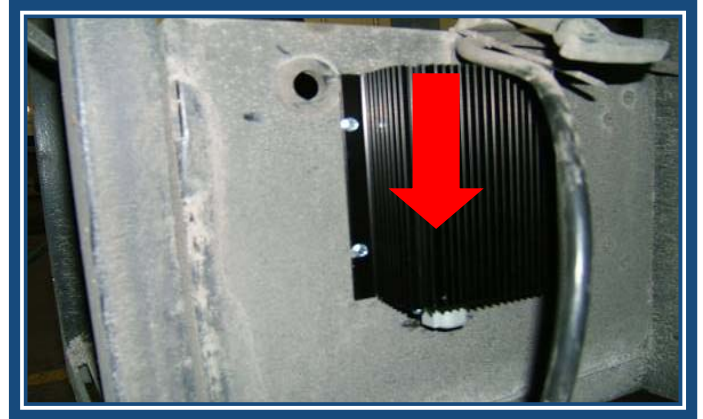

Figure 1
Step 1: Mount the Trail Charger on the back of the battery box using the supplied self-drilling sheet metal screws. Check the back side of the mounting location to ensure that nothing will be damaged during installation. The Trail Charger should be mounted about 1 ½" down from the top and just to the right of the grommet. The unit must also be mounted with the plug pointed down (6 o'clock). (See Figure 1)